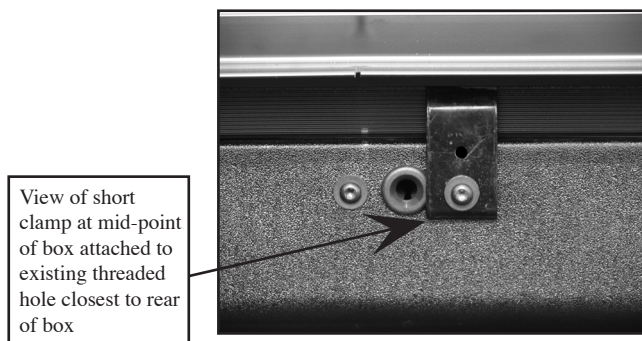

FIGURE 3
3. Near center of box remove existing T-30 bolt **(SEE FIGURE 3)** and install a short clamp. Use new bolt, lock washer and flat washer from kit and torque bolt to 75 inch pounds. Adjust clamp up or down as needed to hold rail level.